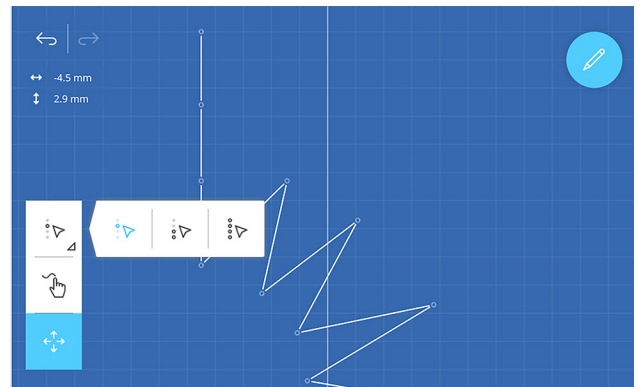

Fig. 27
5. There are three icons on the left of the Stitch Design Area. These are the tools you will use to adjust the decorative stitch (Fig. 27). Use the Selection Options icon at the top and choose Single Point.